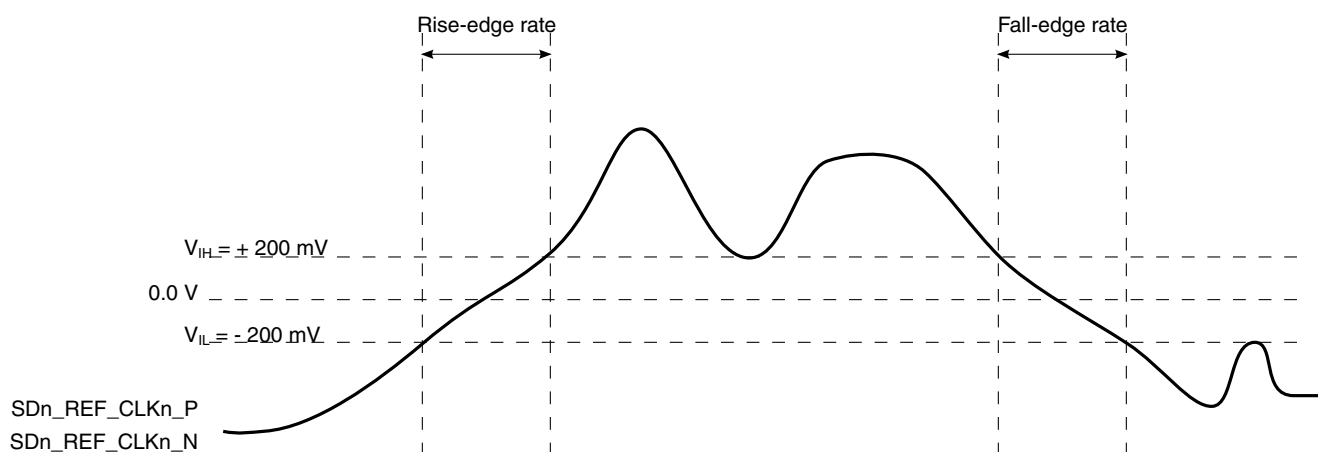

Figure 72. Differential measurement points for rise and fall time
9. Measured from -200 mV to +200 mV on the differential waveform (derived from minus). The signal must be monotonic through the measurement region for rise and fall time. The 400 mV measurement window is centered on the differential zero crossing. See Figure 72.